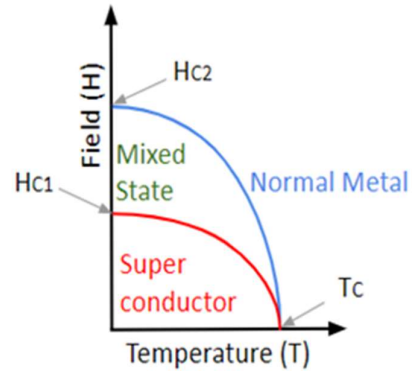

Figure 7c: Field Vs Temperature
- Type-II superconductors are characterized by two critical field values H_{C1} and H_{C2} . Figure 7c is a plot of magnetic field versus temperature indicating that the material is in its superconducting state below H_{C1} , the superconductor enters its normal state after H_{C2} , whereas the superconducting material exists in a mixed state between H_{C1} and H_{C2} .